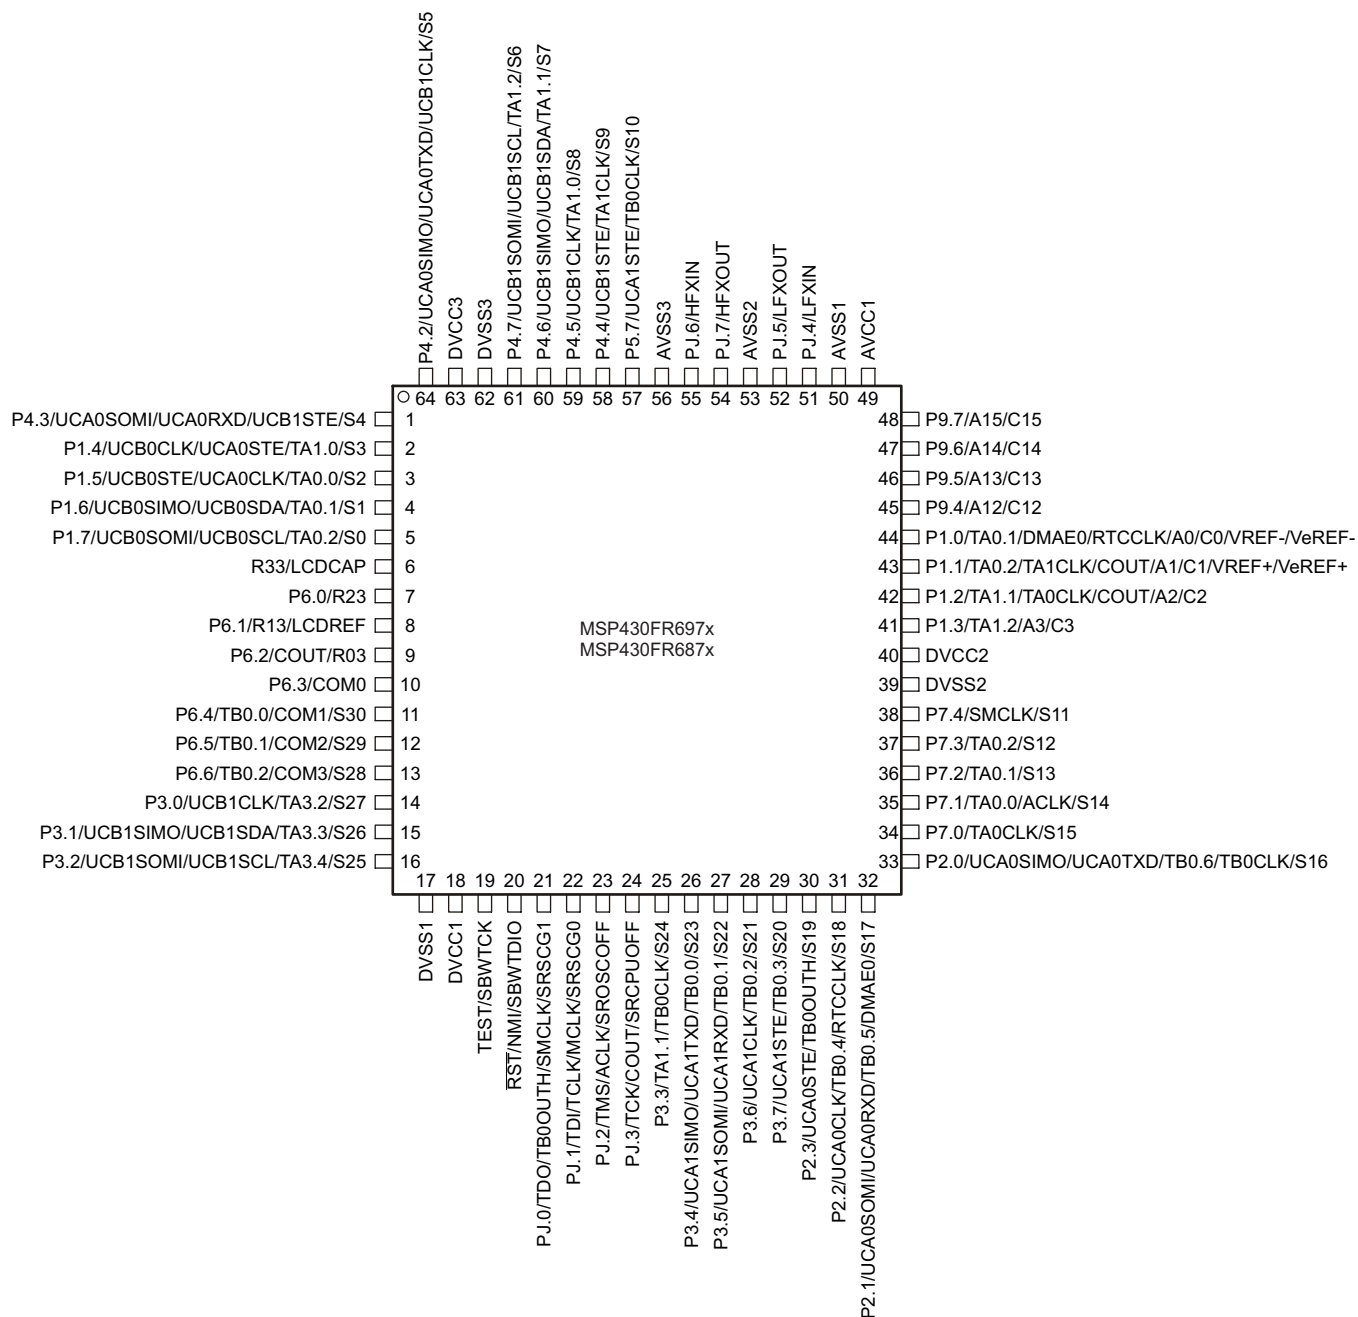

Figure 4-2. 64-Pin PM and RGC Packages (Top View) – MSP430FR697x(1), MSP430FR687x(1)
Figure 4-2 shows the pinout for the 64-pin PM and RGC packages of the MSP430FR697x(1) and MSP430FR687x(1) MCUs.